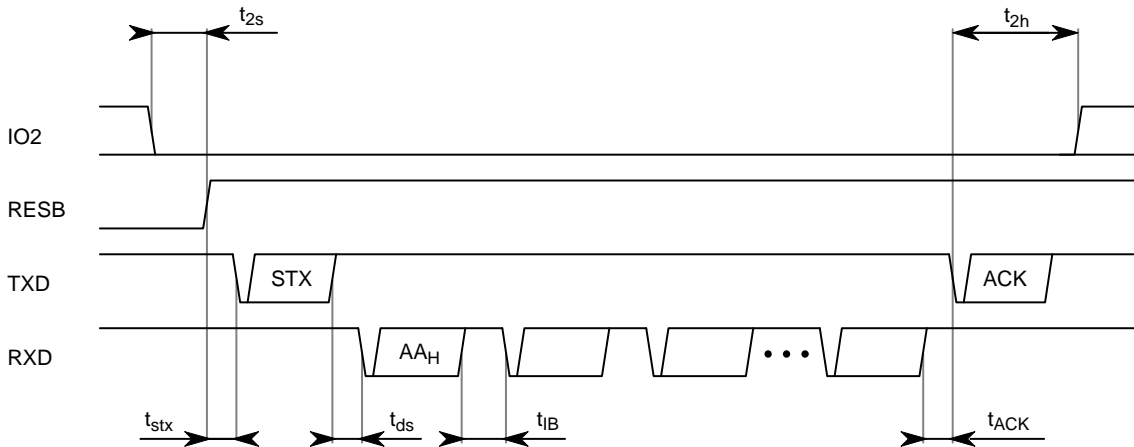

Figure 3. Timing Constraints for Uploading the Firmware over the Serial Communication Interface (SCI)
28. The timing constraints governing the boot loader when uploading firmware over the serial interface are illustrated in Figure 3.